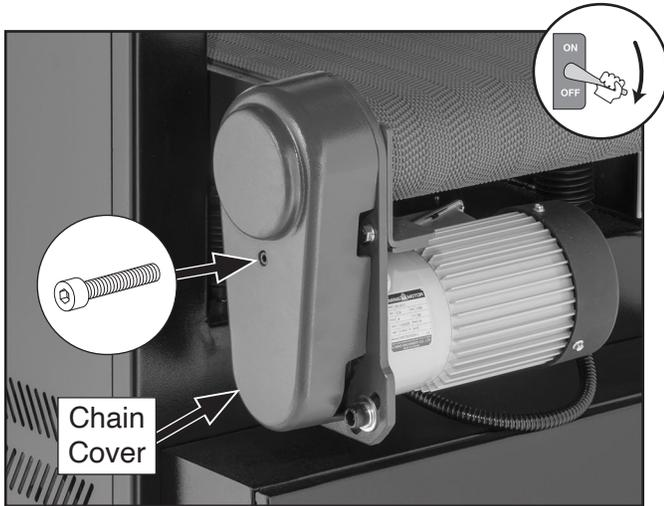

Figure 59. Location of chain cover and screw.
2. Remove cap screw shown in **Figure 59** to remove chain cover.